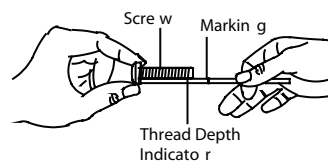

Figure 2
Step 2. Using a pencil, mark the depth of the thread insert on the thread depth indicator (Figure 2).
If your selected screw is longer than the marking on the thread depth indicator, do not use this screw. The screw length must not bypass the marking. If so, select another screw size (Figure 2 and 3) until you find the screw the comes closest to your mark without going past the marking.